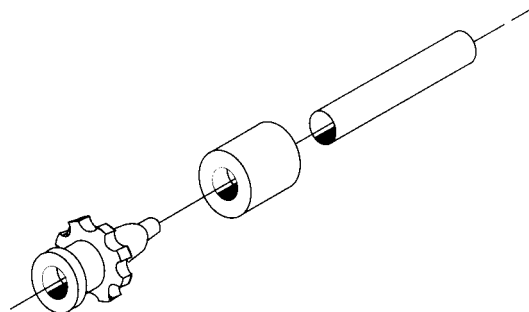

**Fig. 5.1. Tubing installation.**
1. Referring to Figure 5.1, pull the platen cam lever away from the pump head to unlock the platen and slide the platen away from the pump head frame assembly, exposing the rollers.
- b. Cut tubing to proper length and install fittings and lock-rings as described in Section 5.2. Install tubing in pump as described in Figure 5.1. Start the pump and set flow rate to the value you expect to use for your application.